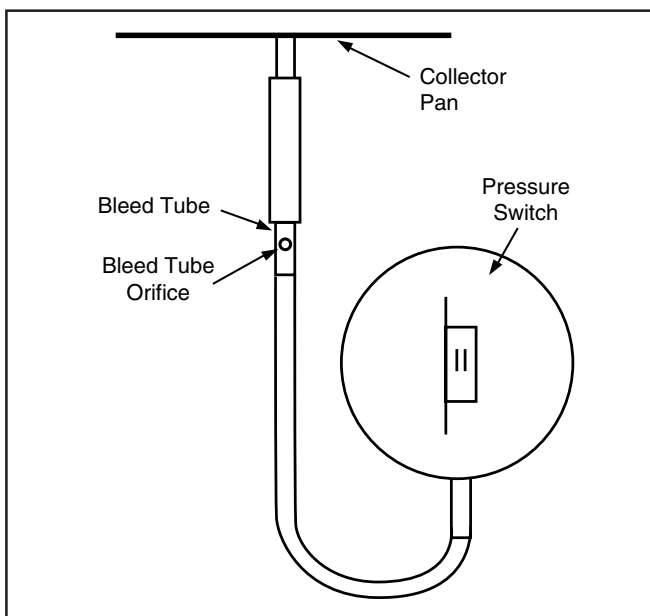

Figure 16. *RK Bleed Tube Installation
1. By-pass the vent switch, located on blower compartment door, by removing both wires from the switch. Remove wire terminals, strip wires and tie together in a wire nut. (See Figure 16.)
- Remove the rubber tubing from the pressure switch sensor tube and the collector pan sensor tube. Cut the tubing approximately 3" from one end. Select the appropriate dilution cover plate as noted with vent kit #903196. Insert the bleed tube into the tubing. **Do not cover the hole in the bleed tube.** Place the tubing assembly back on the pressure switch sensor tube and collector pan sensor tube. (See Figure 16.)